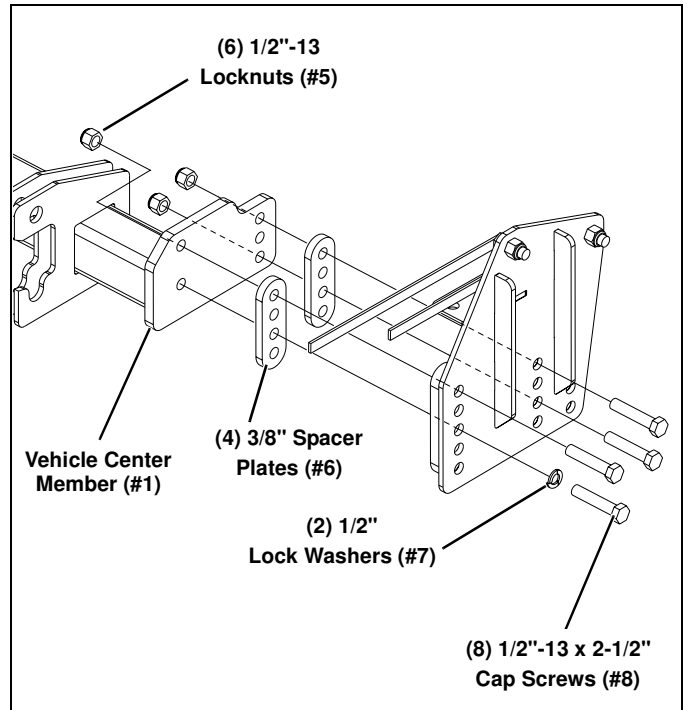

Figure 6
5. Secure the Vehicle Center Member (#1) using (4) 3/8" Spacer Plates (#6), (8) 1/2"-13 x 2-1/2" Caps Screws (#8), (2) 1/2" Lock Washers (#7) and (6) 1/2"-13 Locknuts (#5). (See Figure 6.)